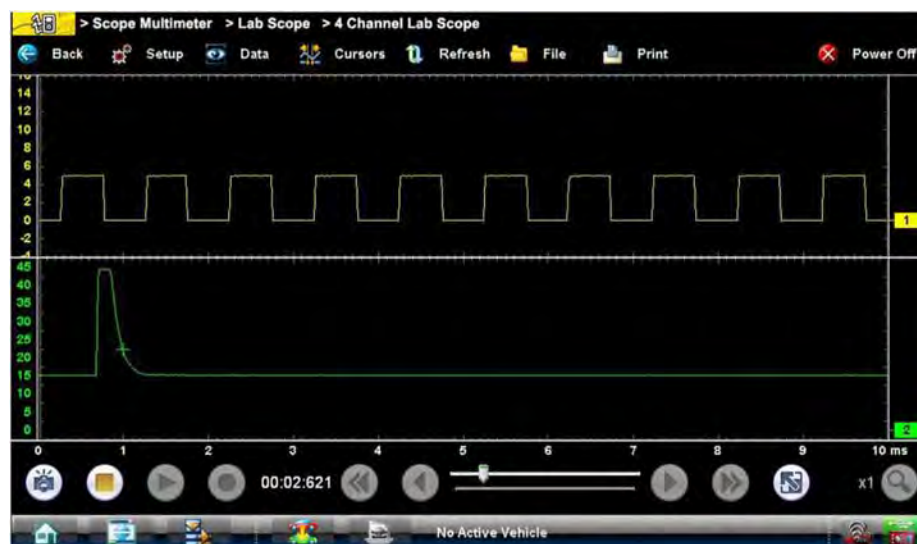
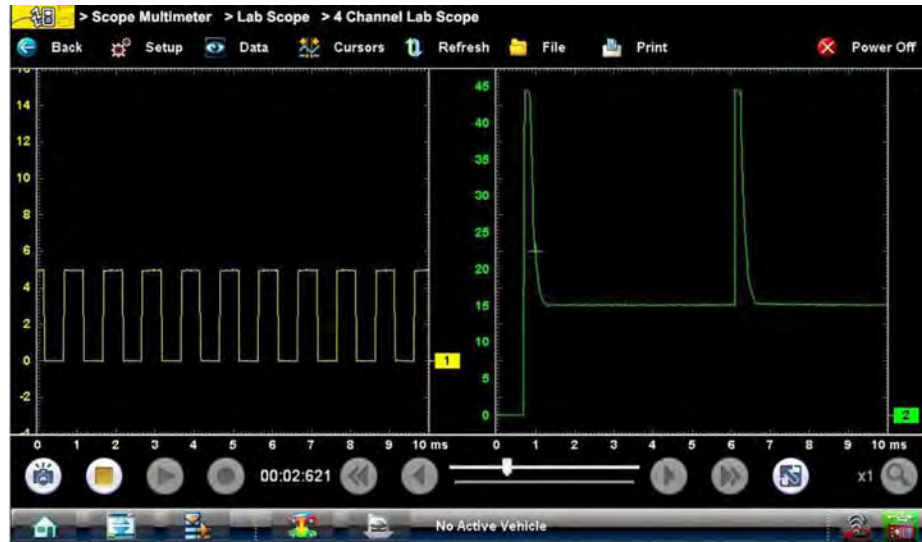

Figure 8-24 Sample 2 Windows horizontal display
Figure 8-25 Sample 2 Windows vertical display
- **2 windows**—shows two separate traces in two ways: horizontal, one below another (Figure 8-24), or vertical, side-by-side (Figure 8-25).